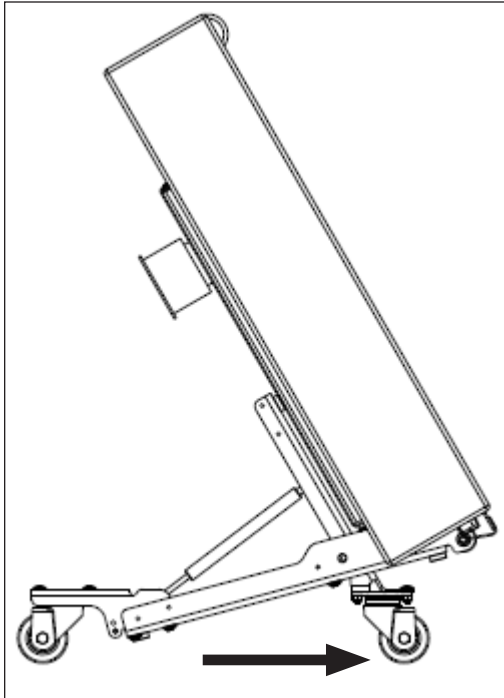
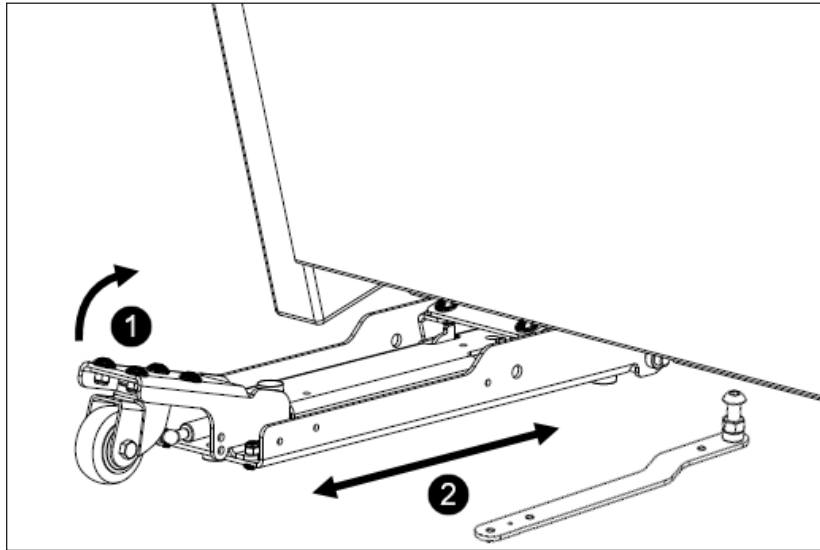

Figure 17: Transport Mode - Side View
Figure 21: Fine-Tune Table Position
1. With the table in its desired location, move to the rear and roll it backwards slightly so the front caster on each caster base is rotated fully forward. Note the orientation of the front caster as shown in **Figure 17**.
5. After both pivot arms are lowered, adjust the position of the table as necessary. Refer to **Figure 21**. Lift up slightly on the rear of one caster base so the table is supported by the rollers on the front of the caster base, and push/pull the table forward/backward. Repeat for the other caster base on the other end of the table as needed.
Note: If the tables are overly difficult to reposition, try adjusting the front and rear caster wheels as shown in **Figure 17** and **Figure 21**.